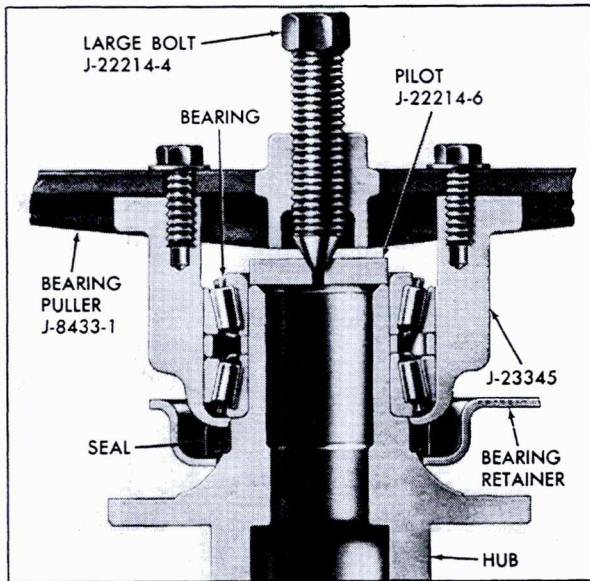

Fig. 3-37 Removing Bearings From Hub
11. Install bearing removal tools as shown in Fig. 3-37.
14. Position Bearing Remover, J-8433-1, on legs, J-23345, Fig. 3-37.
17. Install a large clamp on legs of Bearing Remover, J-8433-1, Fig. 3-37.